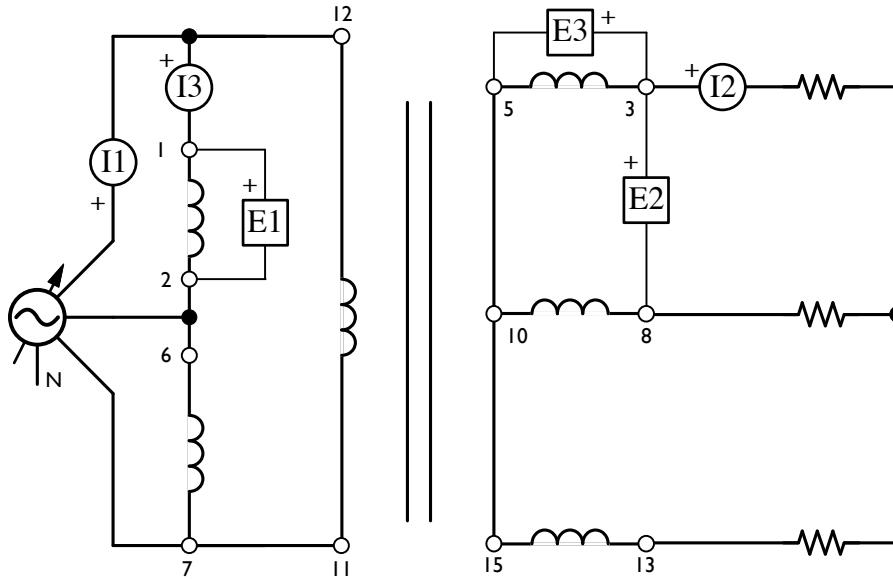

Figure 2.7: Three-Phase Transformer Connected in Delta-Wye. Note: construct circuit without meters.
43. With the power off, connect the Three-phase Transformer module in the Δ - Y configuration shown in Figure 2.7, however do NOT include the voltmeters or ammeters until the instructor has checked your circuit. Set the load resistors to 300 Ω each. Since all load resistors have the same resistance, the load is a *three-phase balanced load*. Under these conditions, the rms voltage and current values are the same in all three phases.